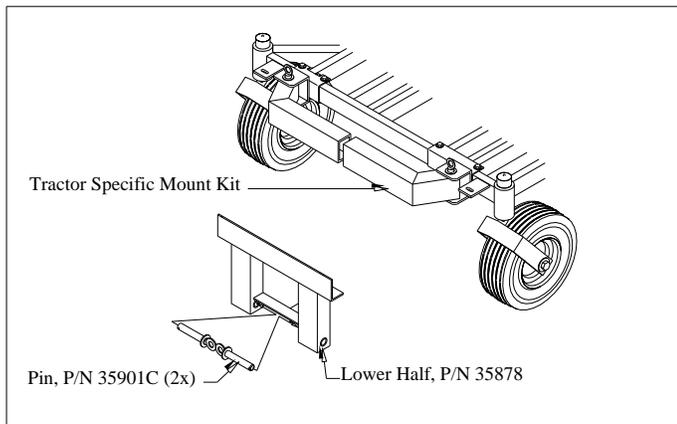

Fig. 1
1. Install tractor specific mountings according to instructions provided with kit. Do not tighten hardware for mounts, leave them loose. Pin cross tubes in place. Slip pins (7) into lower half of blade mount (2). **FIG. 1**